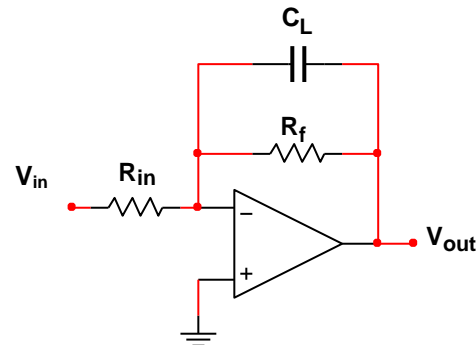

Figure 2 – Active 1st Order Low-Pass Filter
**Figure 2** shows the same amplifier, now with a capacitor inserted in the feedback path.  $Z_{in}$  is still  $R_{in}$ , but  $Z_f$  is the impedance of the resistor and capacitor in parallel, so  $Z_f = Z_{Rf} || Z_{CL}$ . Substituting in the impedances as shown in **Figure 2**:
Typically, for filters, the transfer function of interest is the voltage gain, defined as  $T(\omega) = V_{out}/V_{in}$ . Since the voltage gain of the amplifier in **Figure 2** is  $V_{out}/V_{in} = -Z_f/Z_{in}$ , the transfer function for the filter becomes: